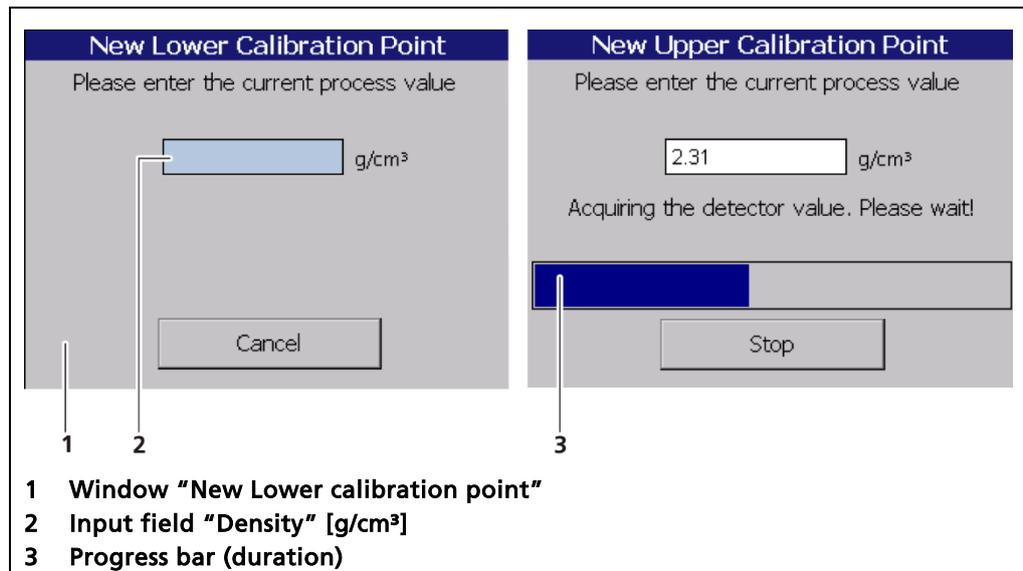

Fig. 26 Set new calibration point (for ex. Lower calibration point)
- ▶ The window "New Calibration Point" (Fig. 26, item 1) opens.
2. Click on the input field (Fig. 26, item 2).